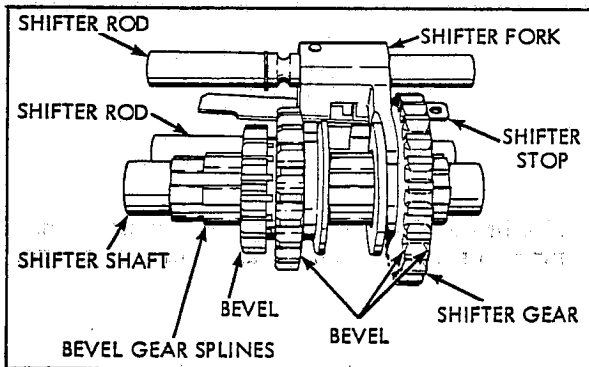
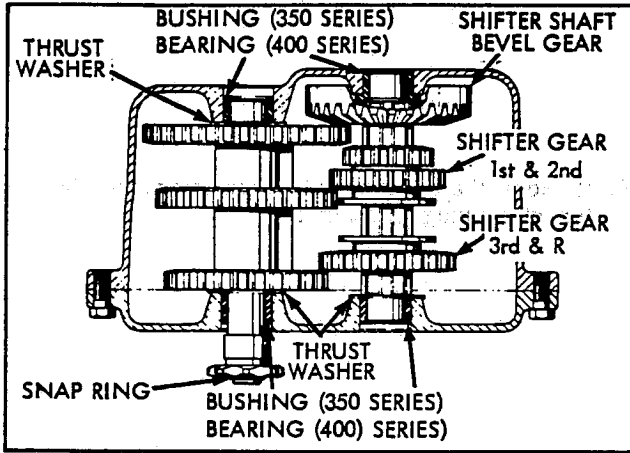

Figure 2-7 Shifter Mechanism
Figure 2-13 Transmission Sectional View (350 Shown)
4. Install the shift mechanism (Figure 2-7). Try to align the gear and shaft splines before inserting the shaft. To do so, visualize the shifter mechanism in position and note the position of one spline. Position a spline on the gear so that its relationship is the same. Carefully guide the shifter shaft through the gear, disturbing the gear and thrust washers as little as possible. The shifter mechanism must be held firmly to keep parts from changing position so that they appear as in Figure 2-13. Install shifter stop.